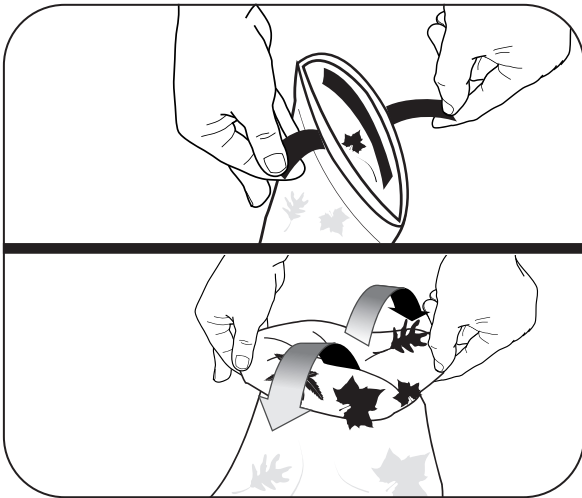

Figure 15. Turn Bag Inside Out
4. Pull tabs to unfasten and turn the bag inside out for thorough cleaning (Figure 15).